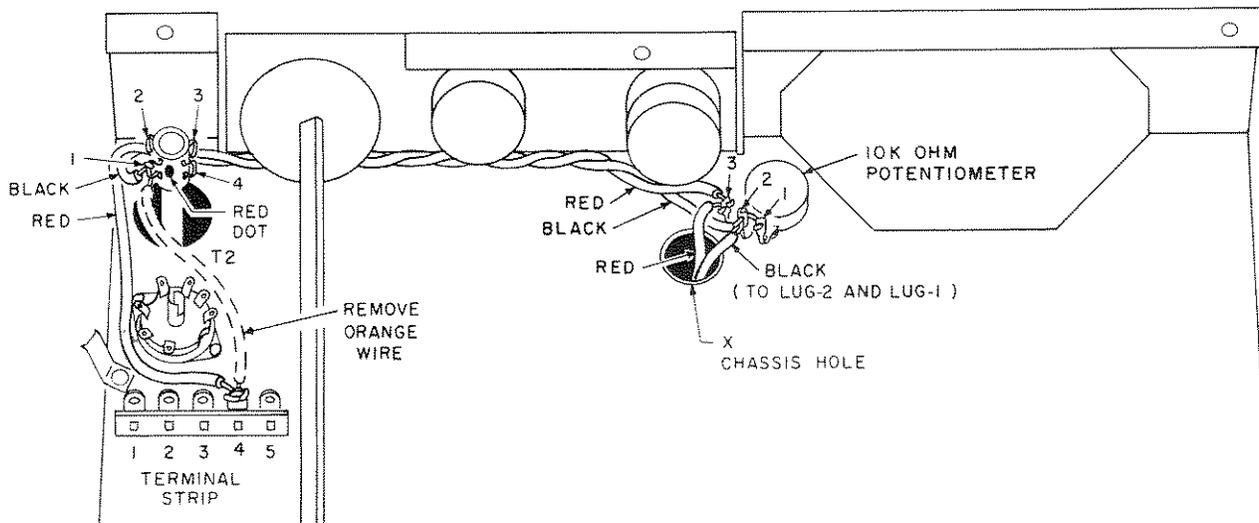

Figure 2. Wiring Under the Chassis.
1. Mount the 10K ohm potentiometer in the location shown in figure 2 using the hardware supplied.
8. Twist the remaining lengths of black and red wire and cut as shown in figure 4. Strip the insulation back 1/4 inch on all ends. Run these wires along the front edge of the chassis as shown in figure 2. Connect and solder one end of the red lead to pin 3 of the 10K ohm potentiometer; connect and solder the black lead on the same end to pin 2 of the potentiometer.